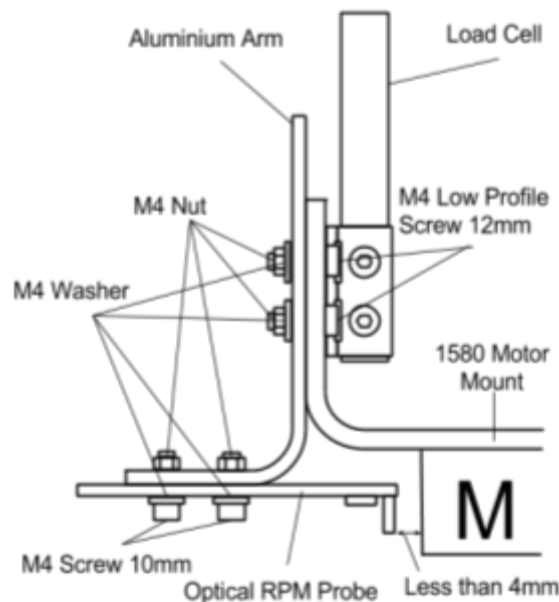

Fig. 4: Series 1580/1585 optical probe installation - part 1
5. Follow figure 4 and 5 to install the optical RPM probe on your Series 1580/1585 dynamometer